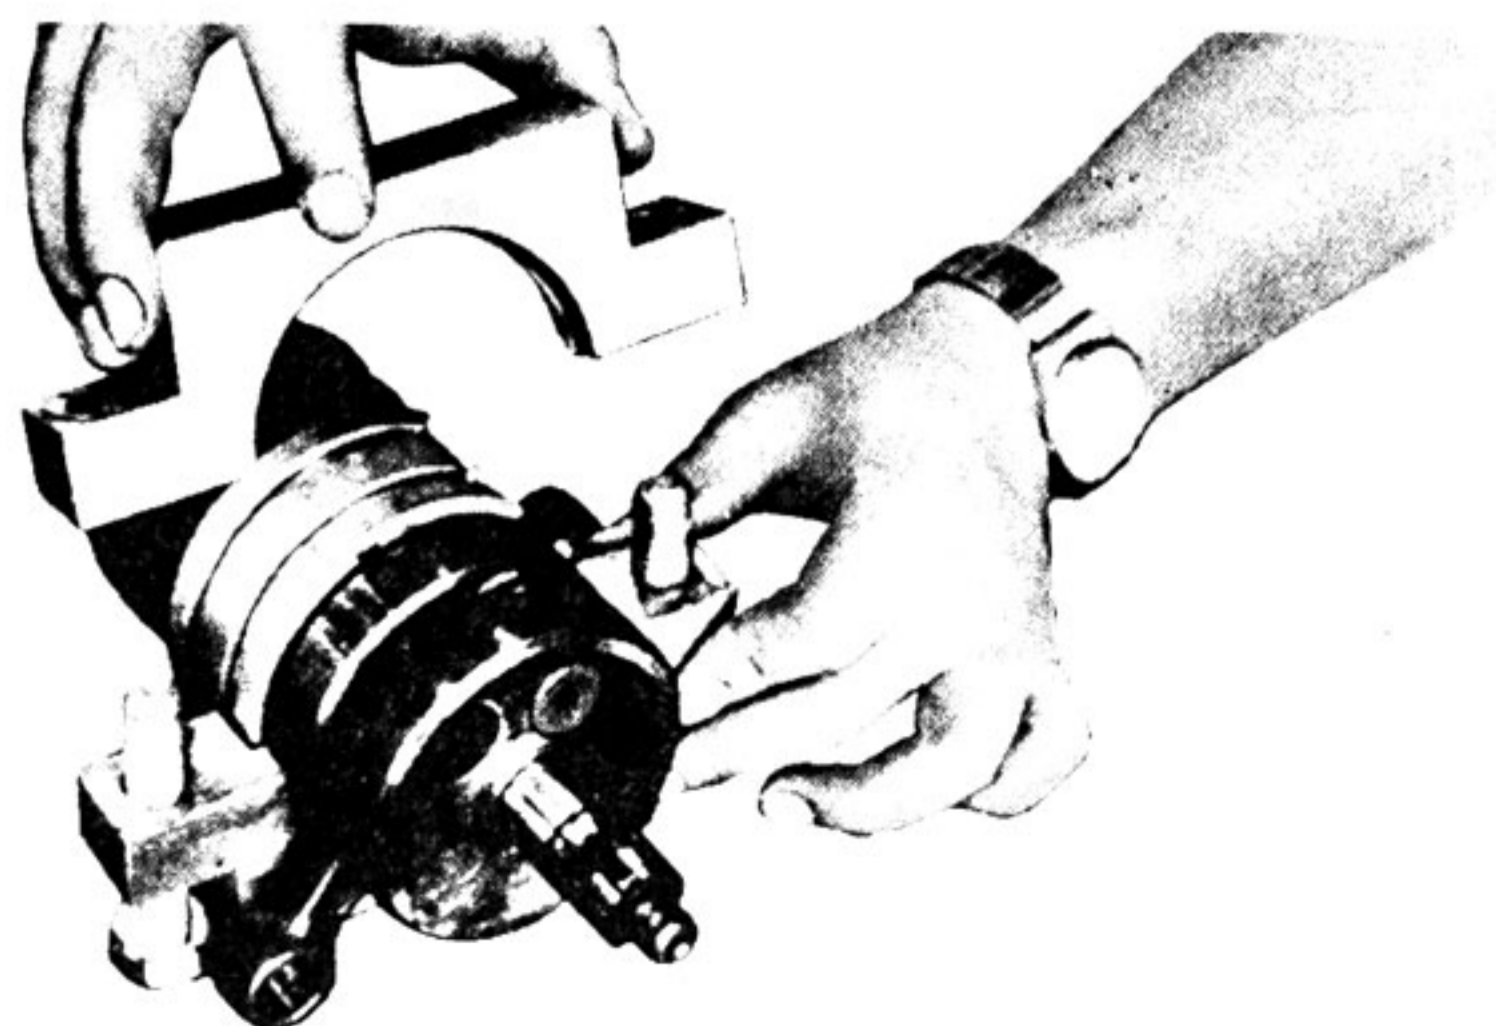

Fig. 4-17-5
- (1) Insert the tool (1) into the gap between the crank wheel and the crank cover. (Fig. 4-17-5)